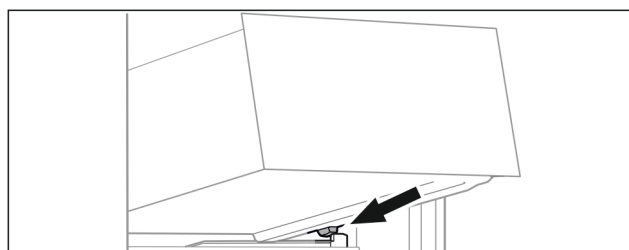

Fig. 95
- Place drawer at an angle behind the stoppers on the moulded rib. (see Fig. 95)